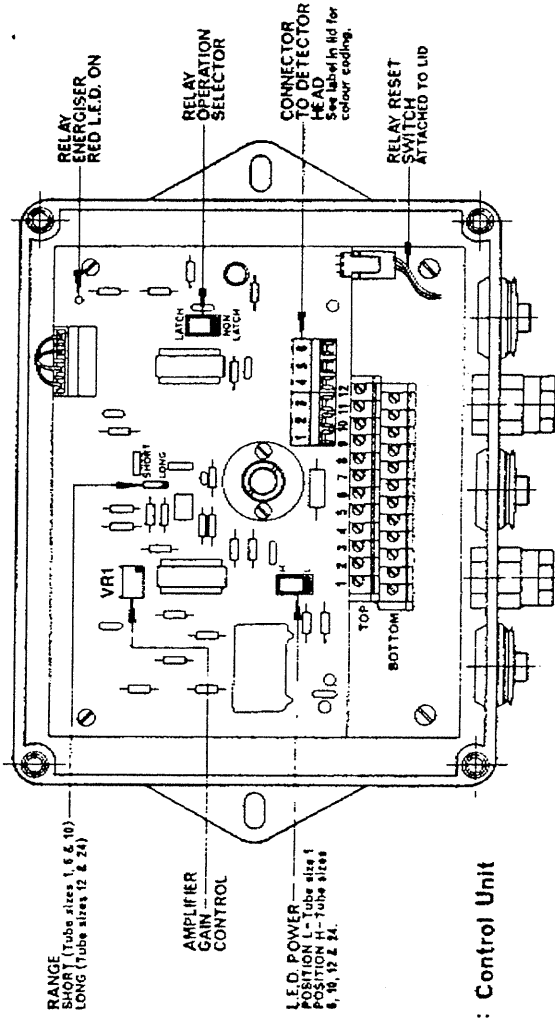

FIG. 4 : Control Unit
- (2) Check, using figure 4, that the control unit is set for the appropriate mode of operation and is suited for the correct emitter/receiver head.
- (3) Check that the connection is made for the required supply voltage (use diagram in the lid of the control unit, W-W 107).
- (4) With the switch in non-latch mode, turn gain control clockwise until relay energises; add further turn.